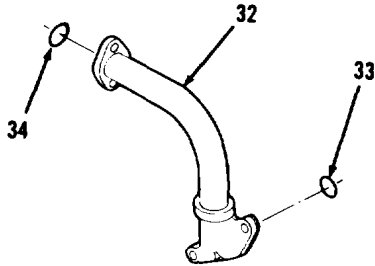

Figure 5-54.
- 10. Remove and discard preformed packings (33 and 34) from tube (32, Figure 5-54).